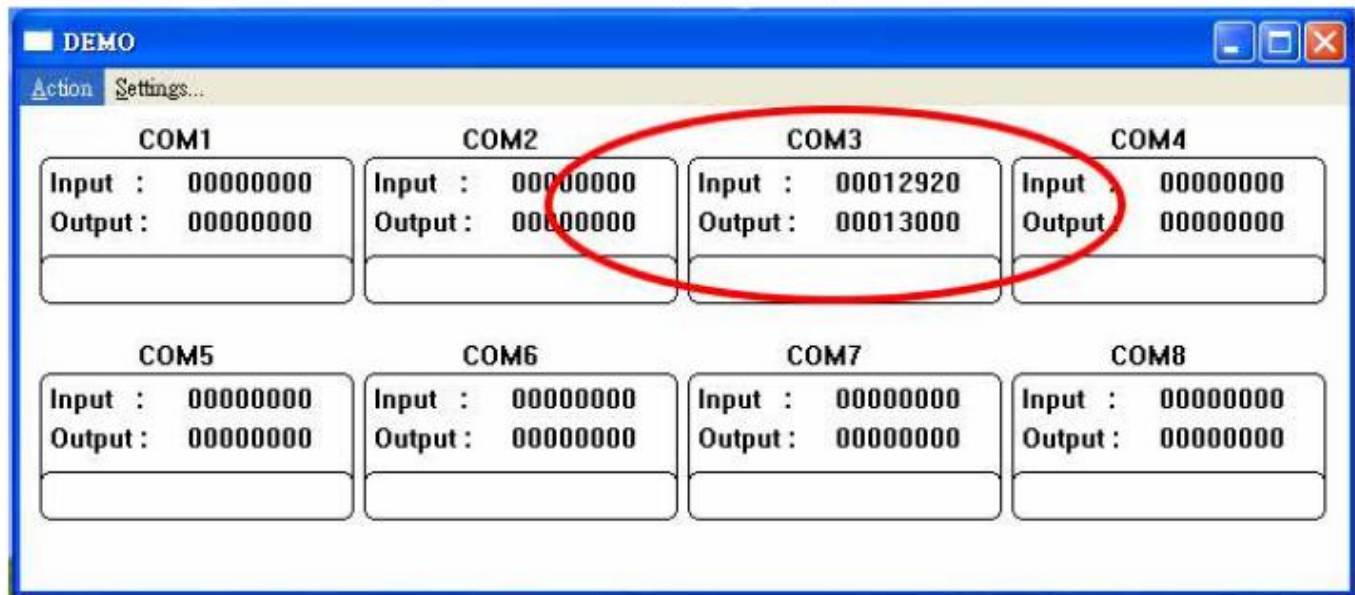

Fig.2
STEP2: Click the “Setting” to set the com port and baud rate (See the Figure 2); the demo setting screen will appear as Fig.2.